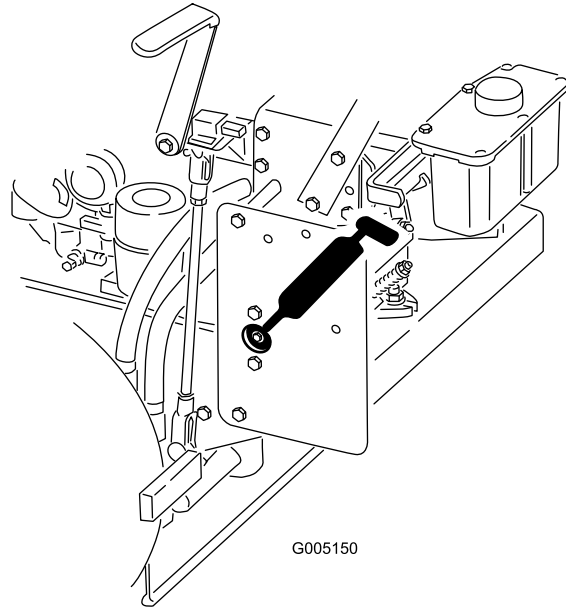

Figure 27
2. Grease the bearings on both sides of the machine (Figure 27).